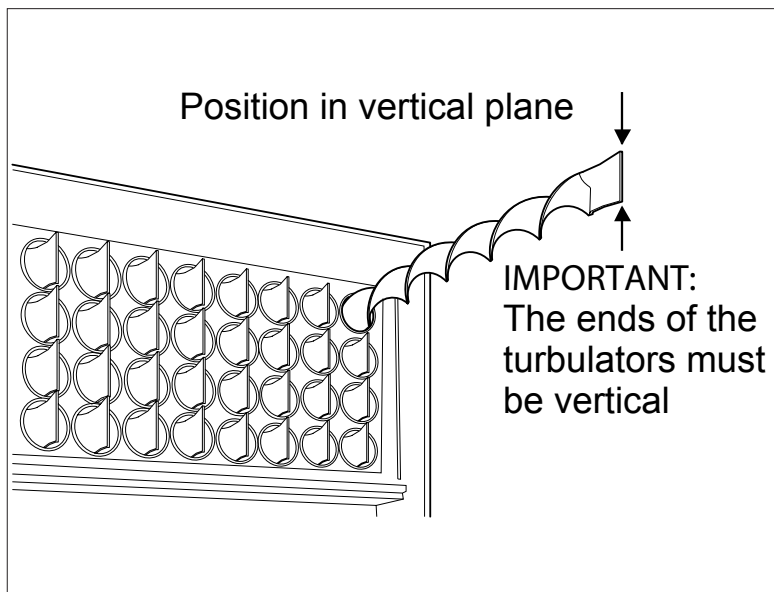

Figure 11-3: Turbulators
7. Pull out the spiral turbulators from the heat exchanger tubes. See Figure 11-3. Clean the turbulators using a stiff brush.